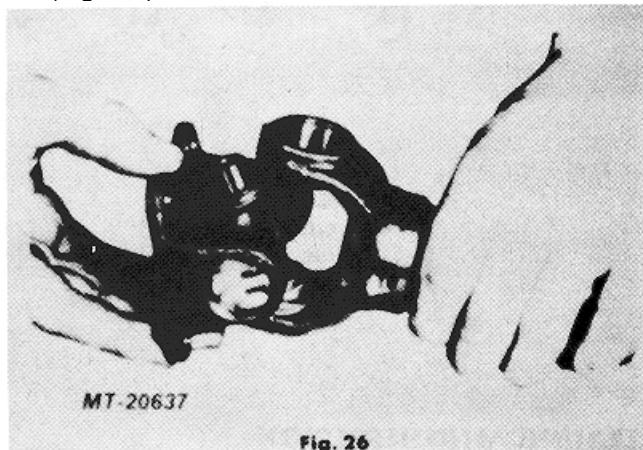

Fig. 26
4. **JOURNAL CROSS**- Remove by sliding it to the side of the yoke and tilting it over the top of the yoke lug (Fig. 26).